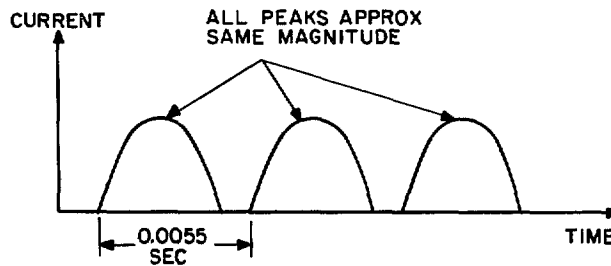

Fig. 21. Oscilloscope trace after adjustment
6. Adjust the two balance rheostats until all three phases are ON and all current peak amplitudes are of approximately the same magnitude (see Fig. 21).